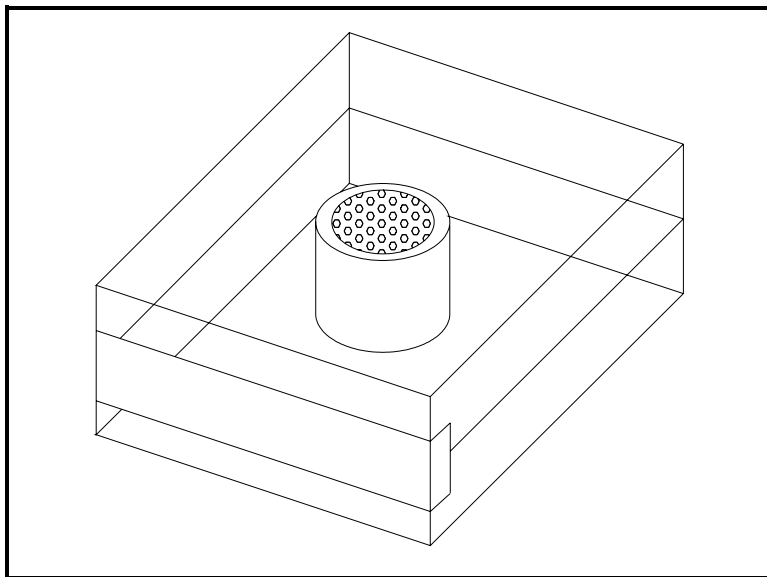

Figure 3: Packaged Oxygen Sensor
1. Remove the O2X1 and the separately-packaged oxygen sensor (see Figure 3 below) from the shipping container. Keep the shipping container and packaging material for possible future use.